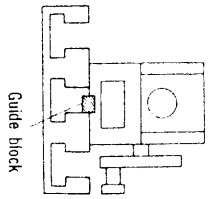

Fig. 2
- (3) When the width of the T-slot is larger than that of the guide block of the dividing head, shift it to one side as shown in Fig. 2.